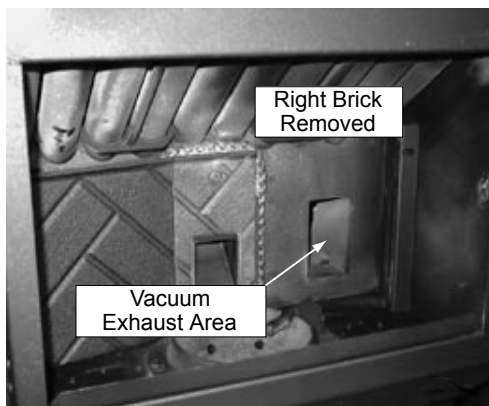

Figure 39.3
5. Insert baffle into top front inside the firebox and pull forward. Then raise up the bottom end and insert baffle tab into slot on the top of the right bracket to lock into place. **Figure 39.3.** Place the left side hook at the bottom of the baffle over the top edge of brick for stability. **Figure 37.4.**